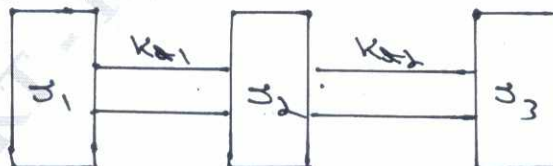

Fig.Q7(a)
- 7 a. Determine the natural frequencies of the system shown in Fig.Q7(a) by Holzers method. Given $J_1 = J_2 = J_3 = 1 \text{ kg m}^2$, $K_{t1} = K_{t2} = 1 \text{ N-mt/rad}$.